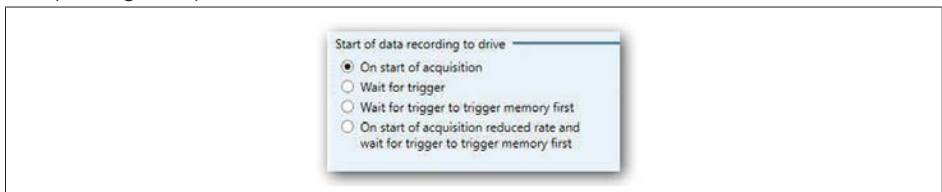

Fig. 9.16 Start of data recording to drive
- A In **Start of data recording to drive** area, select the **On start of acquisition** check box (see Fig. 9.16)